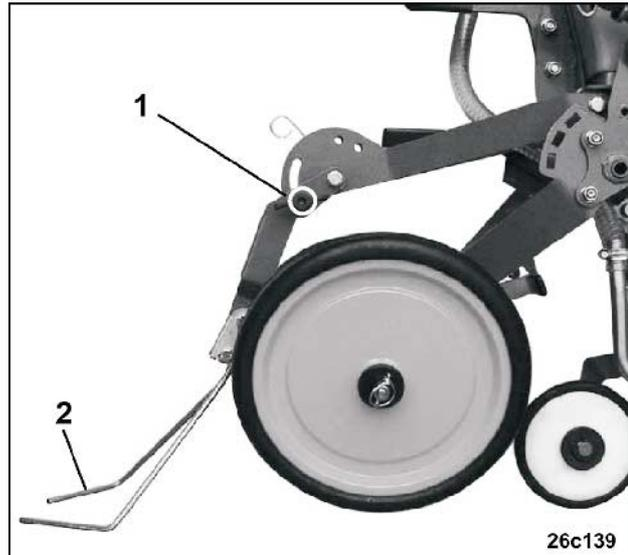

Fig. 144
- Pull out pin (Fig. 144/1).
- Fold downwards the furrow closer (Fig. 144/2) and secure in working position by inserting the pin (Fig. 144/1). Secure using a clip pin.